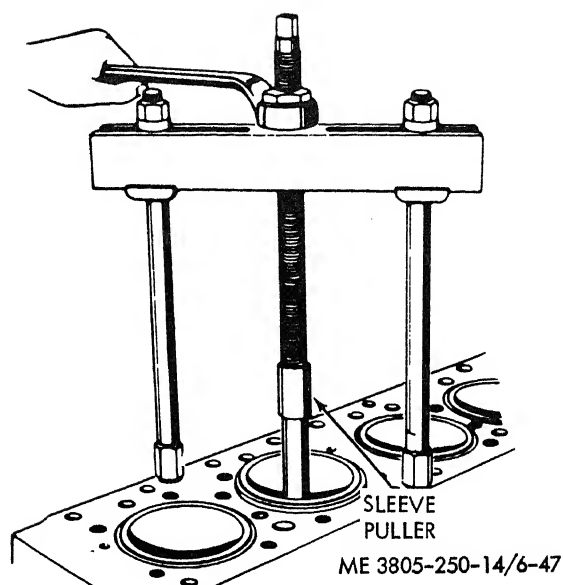

Figure 6-47. Cylinder sleeve puller.
(7) Remove bearing liners (10) from the connecting rod, and cap.
(8) Measure the piston pin bushings (11) inside diameter at three points. If diameter exceeds 1.8018 inches, press the bushings from the rods using an arbor.
(9) If cylinder sleeves (12) are to be removed, mark them for relation with the block. Refer to figure 6-47 and use sleeve puller 5120-417-2952 (970) to remove from the block. Discard preformed packings (13, fig. 7-45).